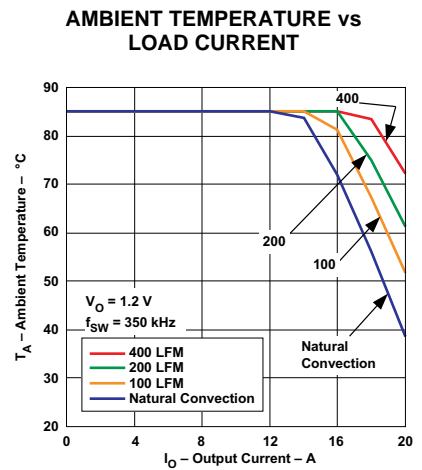
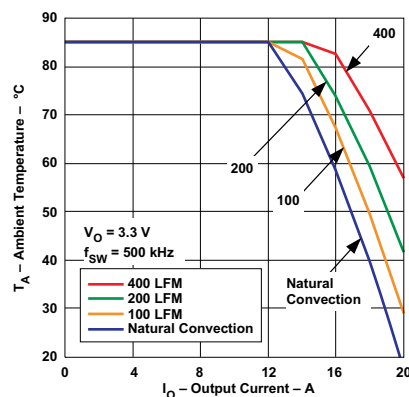

Figure 15. Safe Operating Area
Figure 18. Safe Operating Area
- (2) The temperature derating curves represent the conditions at which internal components are at or below the manufacturer's maximum operating temperatures. Derating limits apply to modules soldered directly to a 100 mm x 100 mm double-sided PCB with 2 oz. copper. Please refer to the mechanical specification for more information. Applies to Figure 15 thru Figure 18.